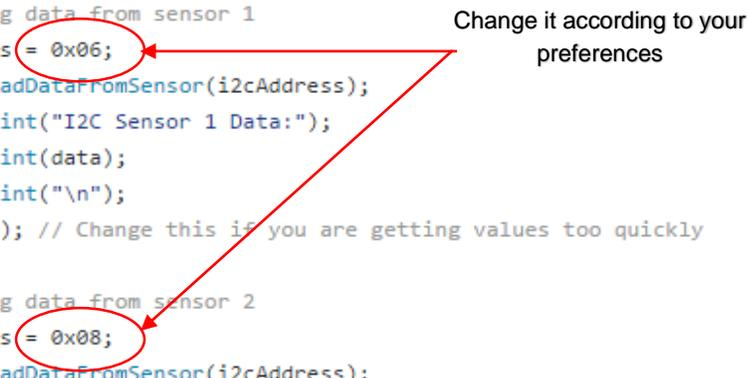

Figure 3: Part of Arduino code for Multi Singletact interface.
4. Modify I2C addresses (inside "void loop()"), as shown in the Figure 3) according to the previous modification has done in Section- 3, step-6.